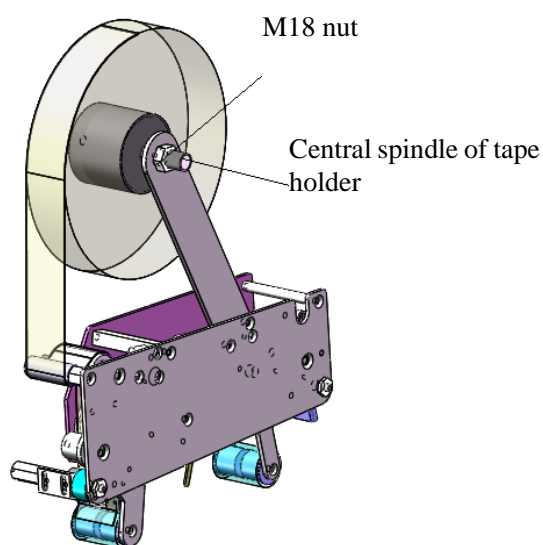

Figure 6
4.3 Adjustment of tape location (see Figure 6):	- 9 -
(see Figure 6):